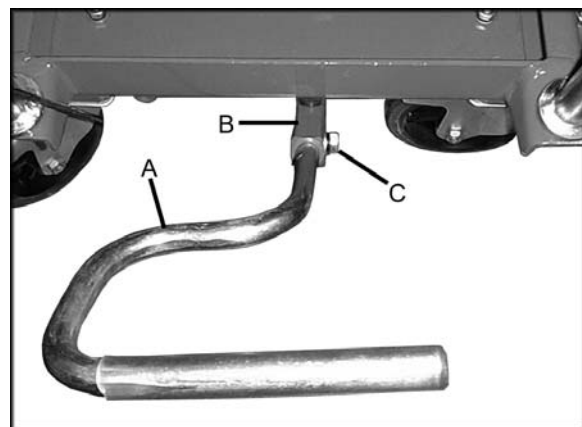

Figure 3
2. Attach foot lever (A, Figure 3) to the lever bracket (B, Figure 3) with one hex cap bolt, one flat washer, one lock washer (C, Figure 3). Tighten with a 14mm wrench.